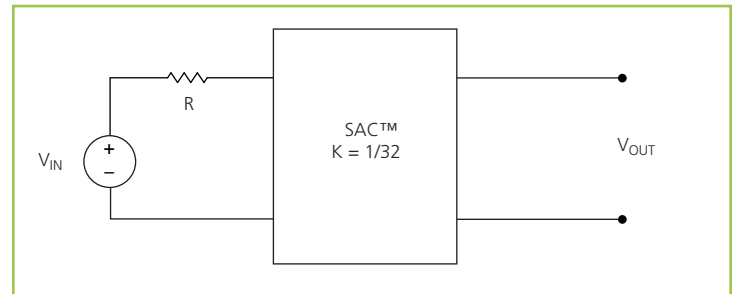

Figure 15 — K = 1/32 Sine Amplitude Converter™ with series input resistor
The use of DC voltage transformation provides additional interesting attributes. Assuming that ROUT = 0 Ω and IQ = 0 A, Eq. (3) now becomes Eq. (1) and is essentially load independent, resistor R is now placed in series with VIN as shown in Figure 15.
Assuming that $R = 1 \Omega$, the effective R as seen from the secondary side is 0.98 mΩ, with $K = 1/32$ as shown in Figure 15.